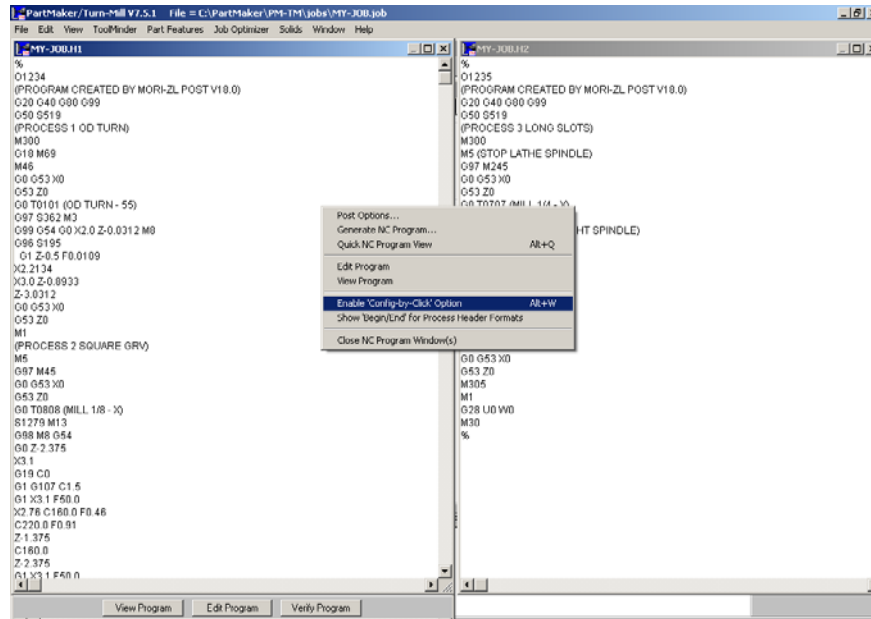

Figure 1: PartMaker's NC Viewer
- a While in PartMaker's NC Viewer, right click in the window and select the **Enable 'Config-by-Click'®** Option from the drop down menu as shown in Figure 1.